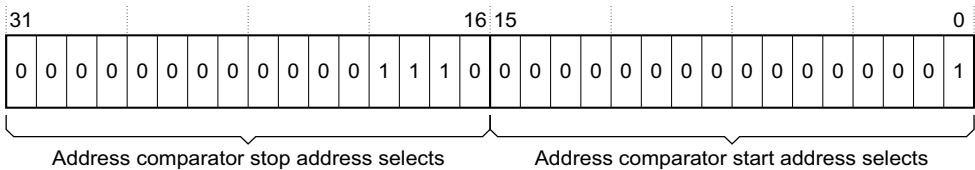

Figure 3-82 ETMTSSCR example
3. Program ETMTSSCR as Figure 3-82 shows: